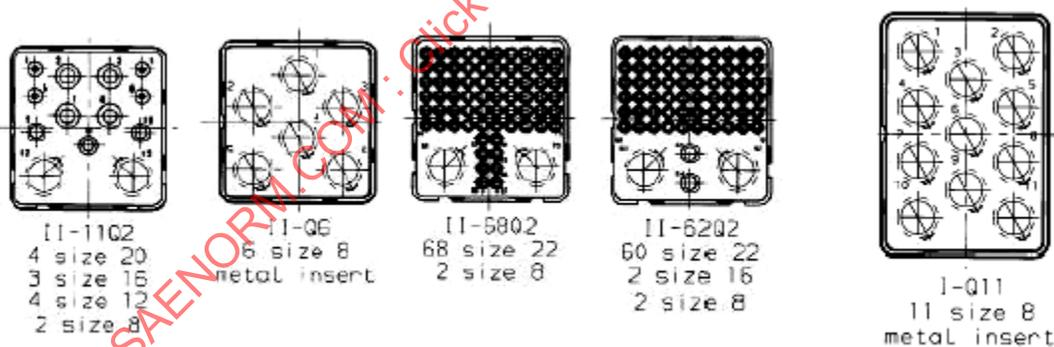
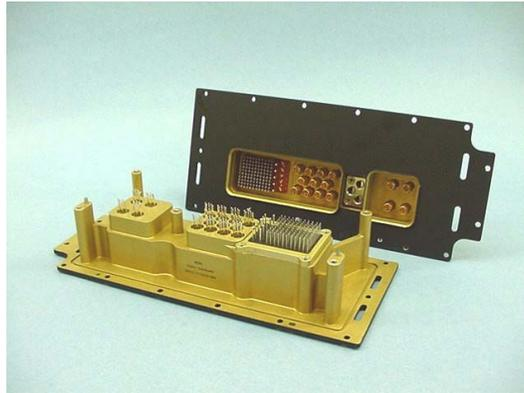

FIGURE 5 - Example of ARINC 600 Style Inserts with #8 Contacts
FIGURE 6 - Quadrax PCB Version Installed in ARINC 600 Style Connector
3.1.2.2.1 ARINC 600 Quadrax Options: Table 2 and Figure 5 illustrate examples of ARINC 600 style connector inserts that have size #8 contacts and support the use of Quadrax inserts. Figure 6 shows the Quadrax PCB Contact installed into an ARINC 600 connector.